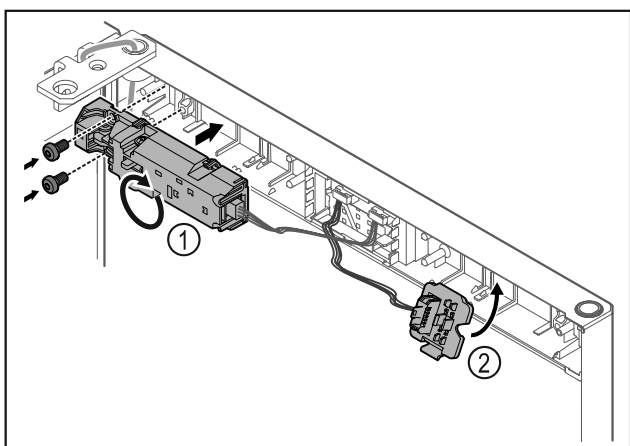

Fig. 22
- ▶ Turn the remote lock Fig. 22 (1) by 180° and fasten it on the opposite side.
- ▶ Snap in the plug holder Fig. 22 (2) on the opposite side.